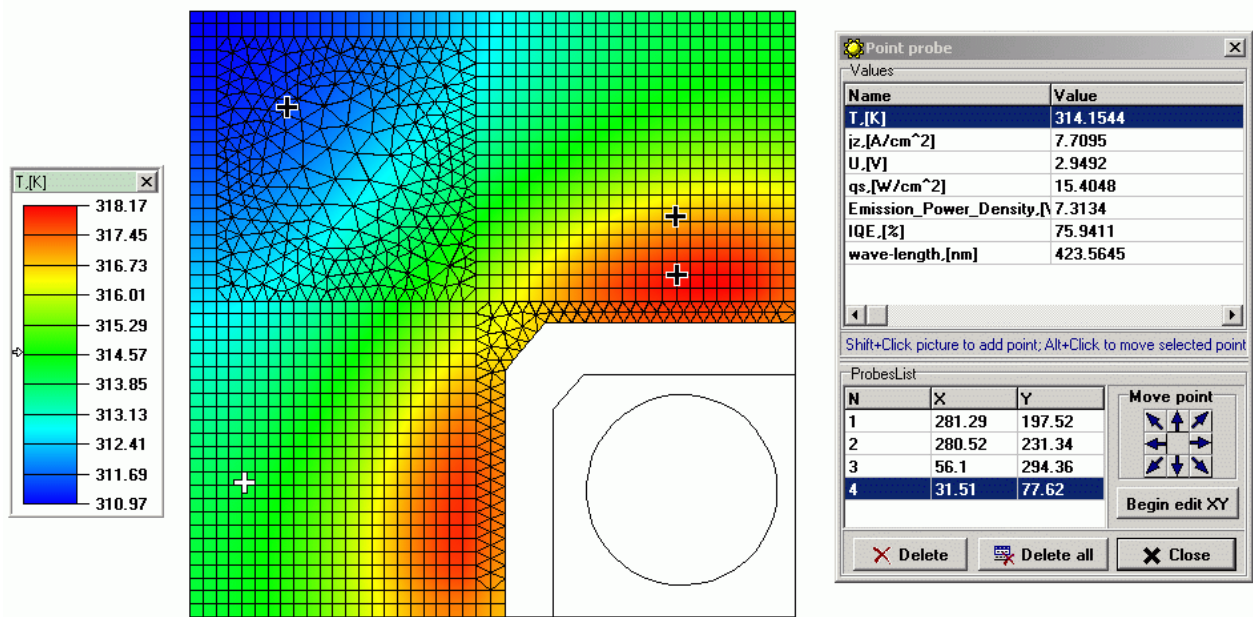

Fig. 7
- **Point Probe** mode allows the user to view the values of all variables at a set of discrete probe points. It is available via the *Probe -> Point Probe* menu item on top of the window. This opens the *Point Probe* dialog window (see Fig. 7) which provides visualization of all variables at each probe point, specification of new probe points and displacement of the existing ones. To specify a new probe point the user should click the left mouse button keeping the *Shift* key pressed.